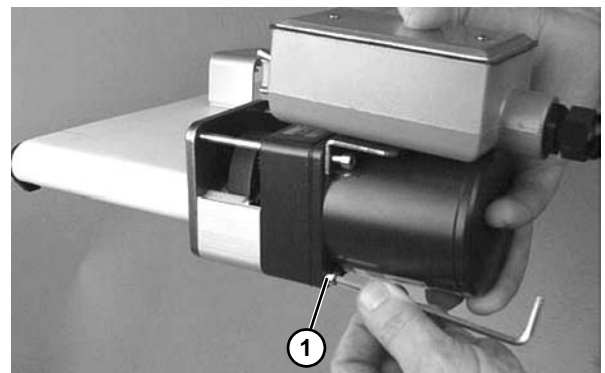

Figure 55
6. Insert gearmotor drive pulley into timing belt. Mount assembly with two (2) bottom screws (Figure 55, item 1). Tighten to 45 in-lb (5 Nm).